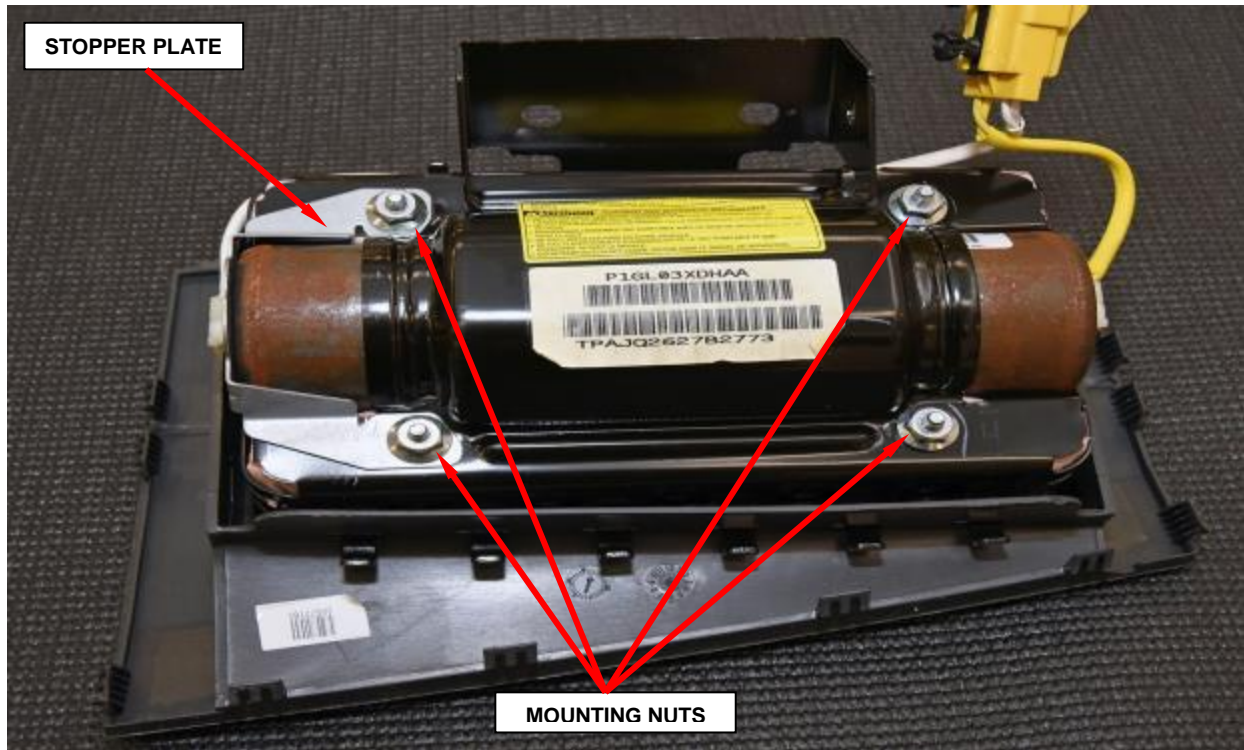

Figure 7 – Mounting Nuts and Stopper Plate
- d. Remove and **discard** the four mounting nuts and remove and save the stopper plate from the passenger airbag module (Figure 7).